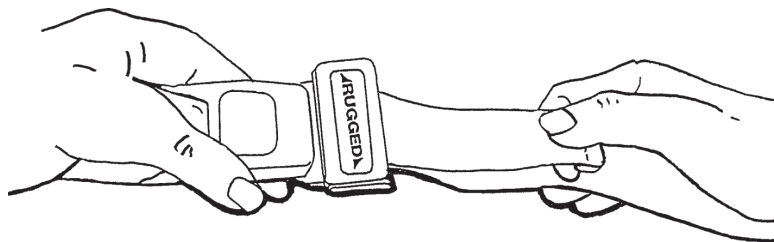

Figure 64c: Shortening the Safety Restraint
- **To shorten the restraint**, grasp the hemmed tab and pull the webbing back through the latch plate until the required tightness is achieved (Figure 64c).